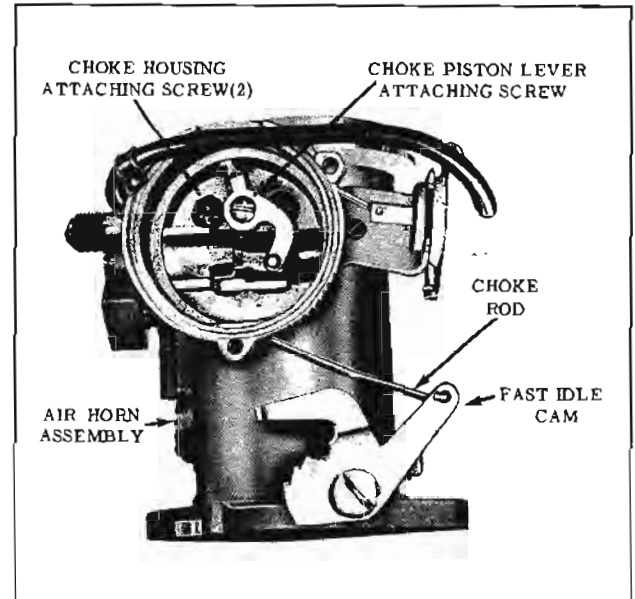

Fig. 9-120 Air Horn Assembly
1. Remove fast idle cam attaching screw. Fast idle cam can now be removed from the air horn assembly and the link connecting to the choke shaft lever. (Fig. 9-120)
4. Remove the choke piston lever attaching screw, then remove the lever link and piston assembly from the choke housing. (Fig. 9-120)
7. Install choke link and fast idle cam (looped ends of choke rod should face outward away from air horn casting). Install fast idle cam attaching screw and tighten securely. (Fig. 9-120)